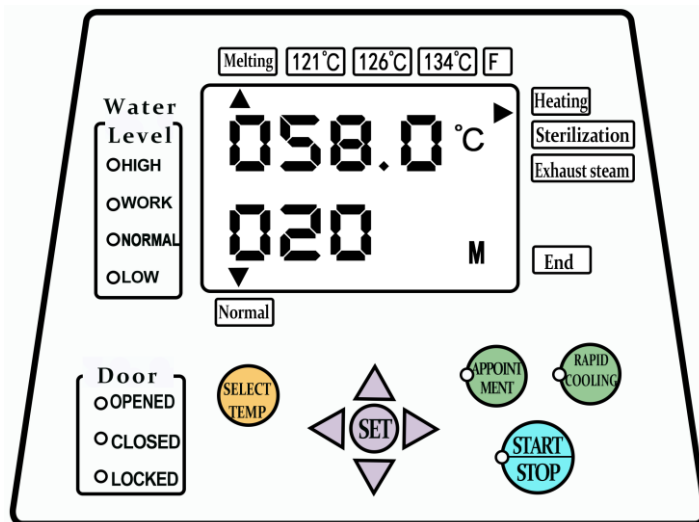

图 3
7.6 Panel Display Part: (Refer to Fig.3)